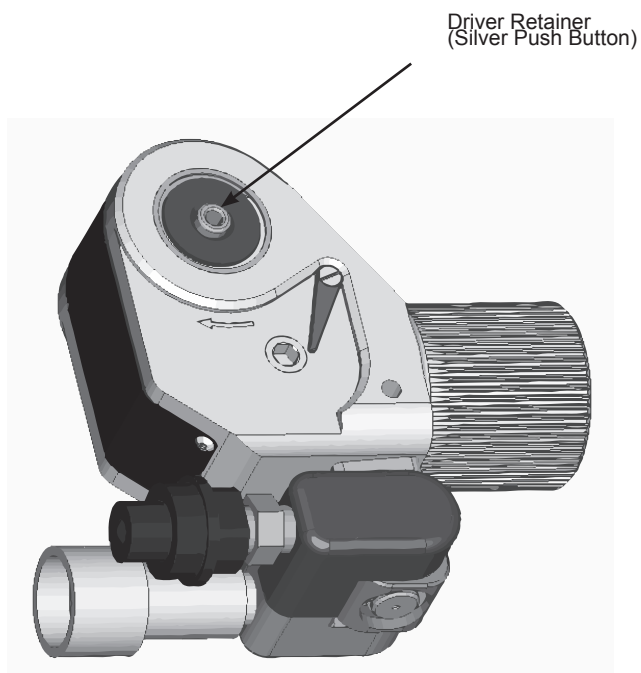

Figure 4 - Drive Direction Change
- To change drive rotation (see Figure 4): Reaction